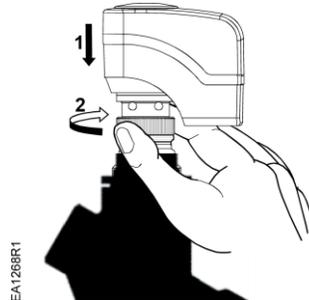

Figure 7. Hand-Tighten Clockwise.
7. Place the actuator on the valve and firmly hand-tighten the coupling clockwise. See Figure 7.
10. Place the actuator on the valve and firmly hand-tighten Figure 7.